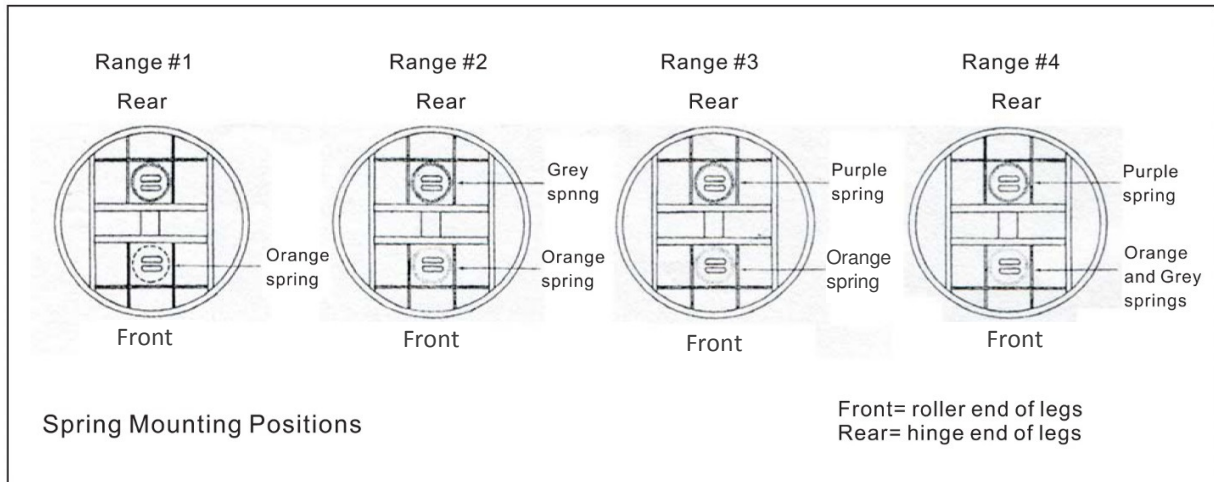

Fig. 7. Spring Mounting Positions
- Fig. 7. shows the position of additional springs if needed. Double-check to be sure you have the correct springs. Refer to Table 1 on page 7 and see that you have the correct springs for your application.